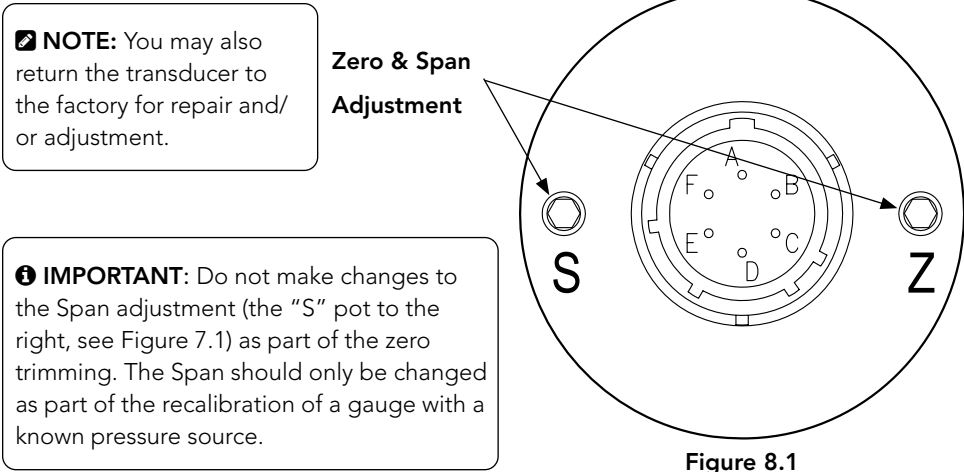

Figure 8.1
- Apply full scale pressure to the pressure port and adjust the Span (“S”) (on the right of Figure 8.1) pot until the full scale signal is reached.